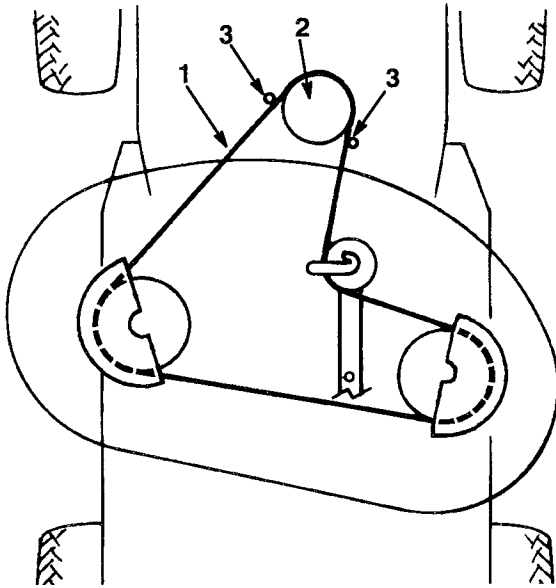

Figure 42
13. Remove the mower belt from the lower engine pulley (Fig. 42). If you are careful, you can flex the belt guide(s) just far enough away from the pulley to remove the belt. If it is too difficult to remove the belt, loosen the bolts and nuts securing the belt guides.
4. Install mower belt onto the lower engine pulley (Fig. 42). If you are careful, you can flex the belt guide(s) just far enough away from the pulley to install the belt. If it is too difficult to install the belt, loosen the bolts and nuts securing the belt guides.